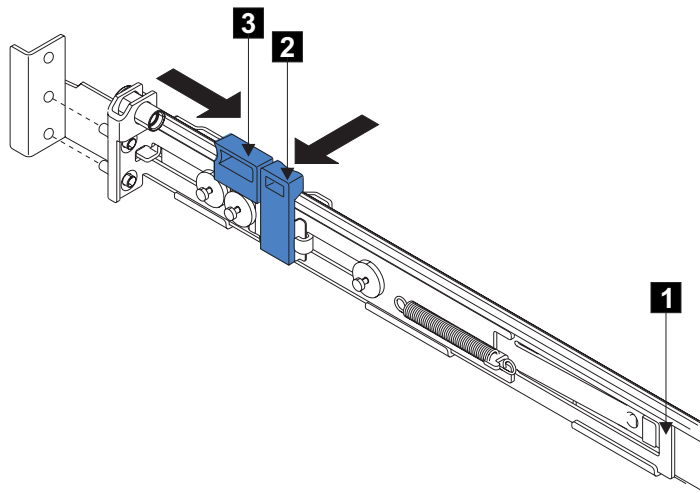

Figure 93. Opening the back latch-lock carrier assembly
5. Push the back rail bracket **1** (Figure 93) toward the front of the rail until it stops. The rail is now at its shortest adjustment.